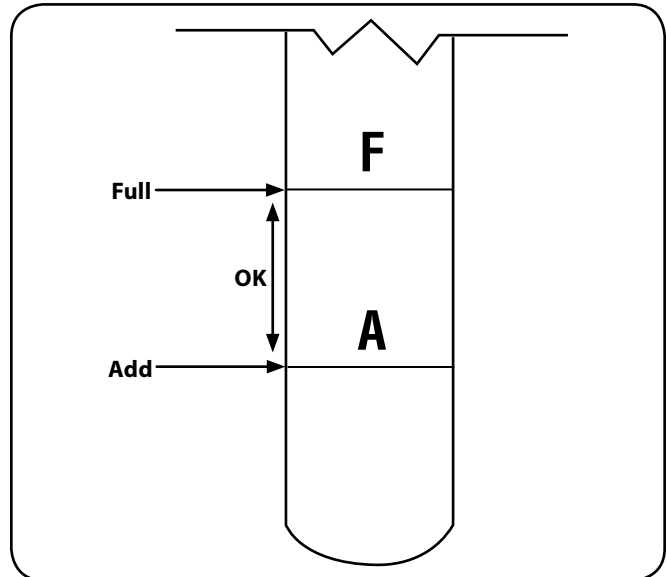

Figure 6-6
1. Remove the dipstick and check the level. See Figure 6-6.
7. Remove the oil fill plug/dipstick from the oil fill port and SLOWLY pour oil into the oil fill port. Fill the transmission case until the oil level reaches the "FULL" mark on the dipstick. Refer to Figure 6-6.